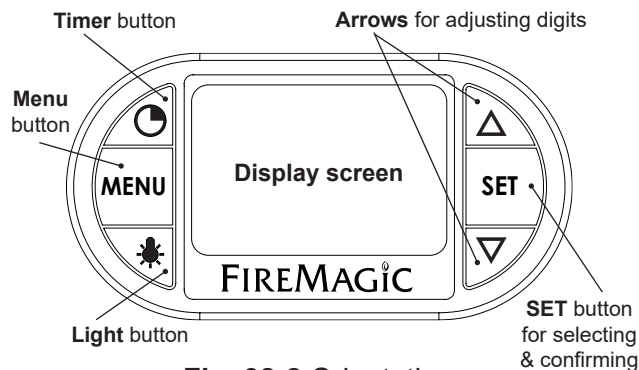

Fig. 38-2 Orientation
Read the following sections completely regarding thermometer operation. Refer to Fig. 38-2 for thermometer orientation and button locations.
1. Press the light button to turn both the interior oven lights and knob backlights ON (see Fig. 38-2). The interior oven lights will temporarily shut off when the hood is closed (except for Magic View models).